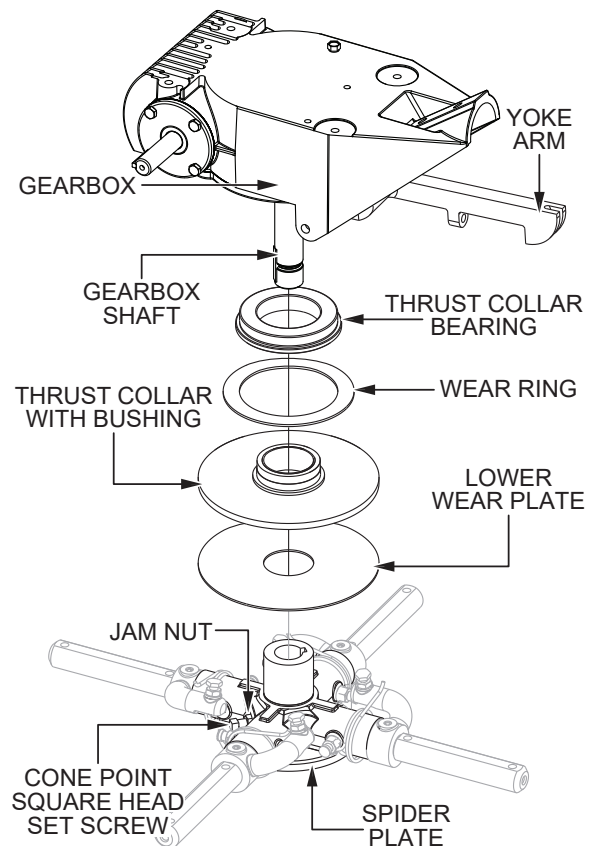

Figure 68. Spider Removal
1. Locate and loosen the cone point square head set screw and attached jam nut on the side of the spider assembly (Figure 68).